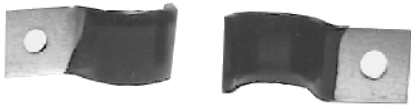

Figure 4: Mounting Brackets
Step 6. Secure the cables by using the provided mounting brackets. There are two mounting brackets (See Figure 4). Pass the power cord from the side of the housing and attach it to the surface with the cable-clamp supplied with the **PNP200**